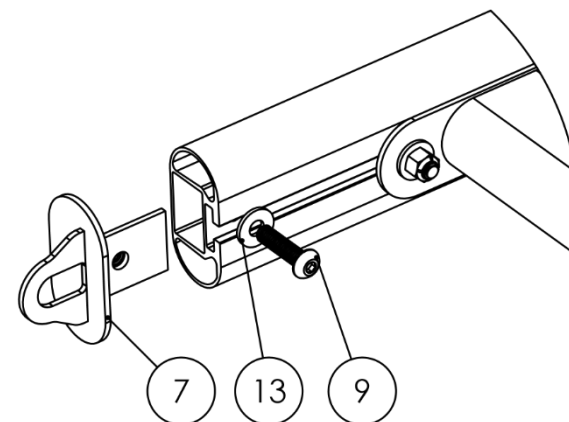

Figure 12
7. **Install the End Caps to the Side Rails.** Slide (4) End Caps (Item No. 7) into each end of a Side Rail (Item No. 2). Once inserted, match the Side Rail's pre-drilled hole with the End Cap's threaded hole. As shown in Figure 12, secure each End Cap by threading a 1.25" Button Head Cap Screw (Item No. 9) and a Metal Washer (Item No. 13) into the concentric holes.